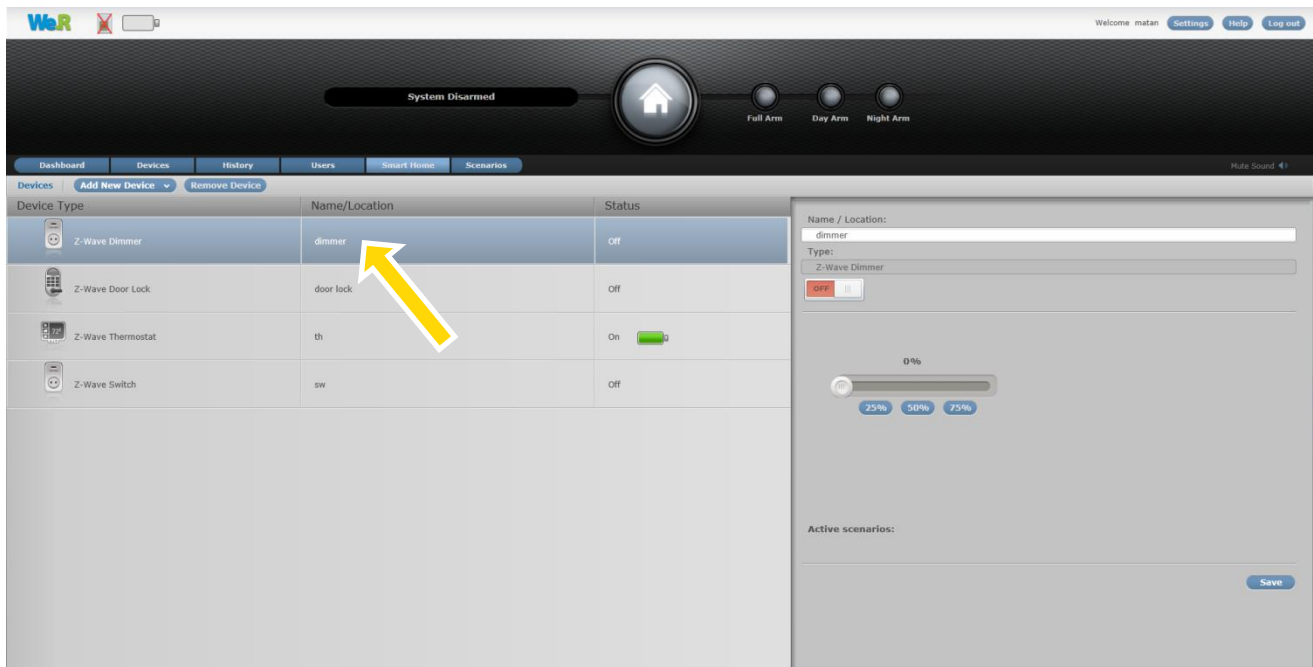

Figure 156: A Z-Wave® System with Dimmer and Switch Devices
The system presented in Figure 156 below has four (4) Z-Wave® remotely controlled devices – a dimmer, a door lock, a thermostat and a switch.